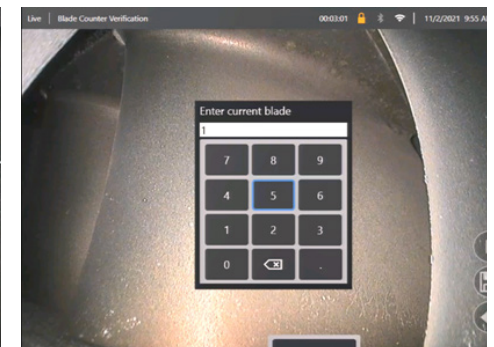

Fig 7b. 'Enter current blade' prompt
- Enter the blade number upon which the inspection begins (Figure 7b).